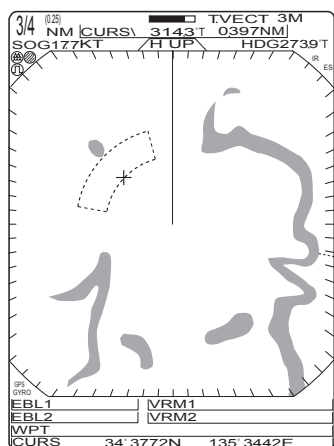
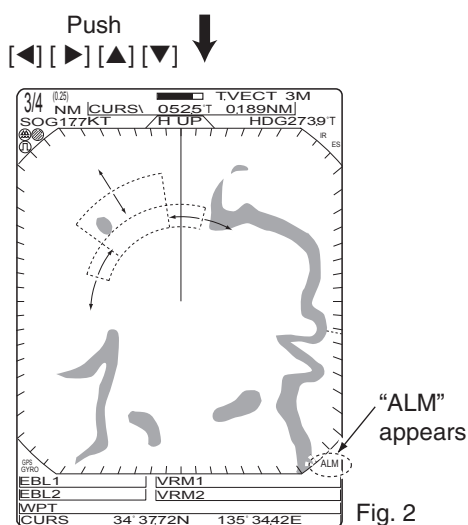

Fig. 1
Fig. 2
- ① Push [ + ]/[ 量程+ ] or [ - ]/[ 量程- ] to select the desired range.
- ② Push [ ◀ ], [ ▶ ], [ ▲ ] or [ ▼ ] to set the cursor to the starting point of the alarm zone.
- ③ Hold down [ ALM ]/[ 报警 ] for 1 second to enter the alarm zone setting.
- The starting zone appears on the screen. (Fig. 1)
- ④ Push [ ◀ ] or [ ▶ ] to adjust an angle and push [ ▲ ] or [ ▼ ] to set the distance of the alarm zone.
- ⑤ Push [ ALM ]/[ 报警 ] to set the alarm zone and activate the alarm function.
- ⑥ If a target comes into or goes out of the alarm zone, an alarm sounds.
- ⑦ To deactivate the alarm function, push [ ALM ]/[ 报警 ].
- ⑧ To activate the alarm function again with the same programmed zone, push [ ALM ]/[ 报警 ].
- “ALM” and the pre-programmed alarm zone appears. (Fig. 2)